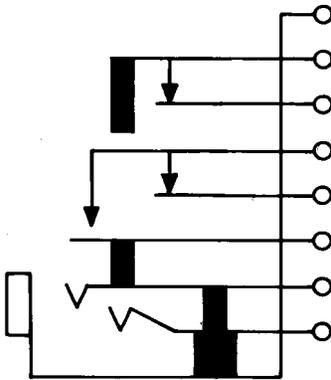

Fig. 5—458-Type Jack
**2.05 458A, C, and CM:** These single-mounted jacks (Fig. 5) are used with the 310 or similar-type plugs.